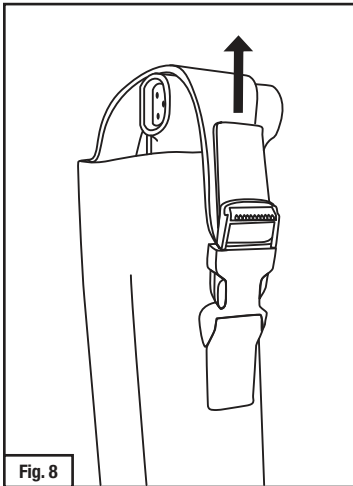
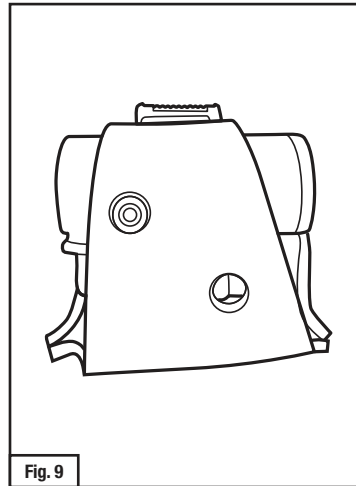

Fig. 8
Fig. 9
6. With the adapter and battery fully inserted into lower portion of holster, snap the buckle connecting the upper flap and lower portion of the holster. Pull the leather strap located on the buckle to tighten top of holster for a snug fit (Fig. 8). Ensure that adapter indicator light can be seen through one of the two holes located on the strap of the holster (Fig. 9).